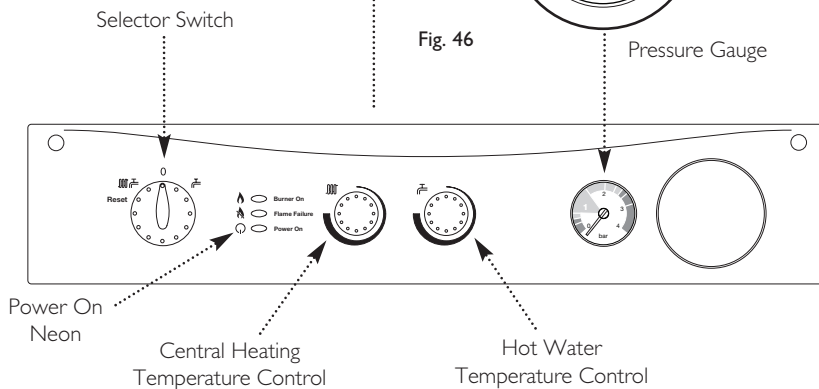

Fig. 47
11. If at any time during commissioning it is required to terminate a particular cycle, e.g. the pump overrun period, turn the selector to the OFF position and then back to either (OFF) or (ON) (Fig. 47).